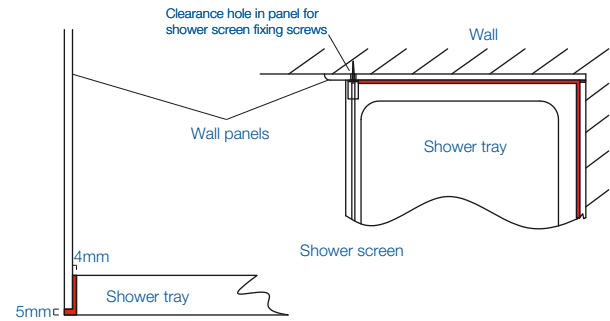

Fig B4 Forming shower tray base joint without base extrusion
- 10 When installing the shower tray, apply a 3mm thick layer of BB Complete to the entire height of the shower tray wall as shown in *fig B4*.